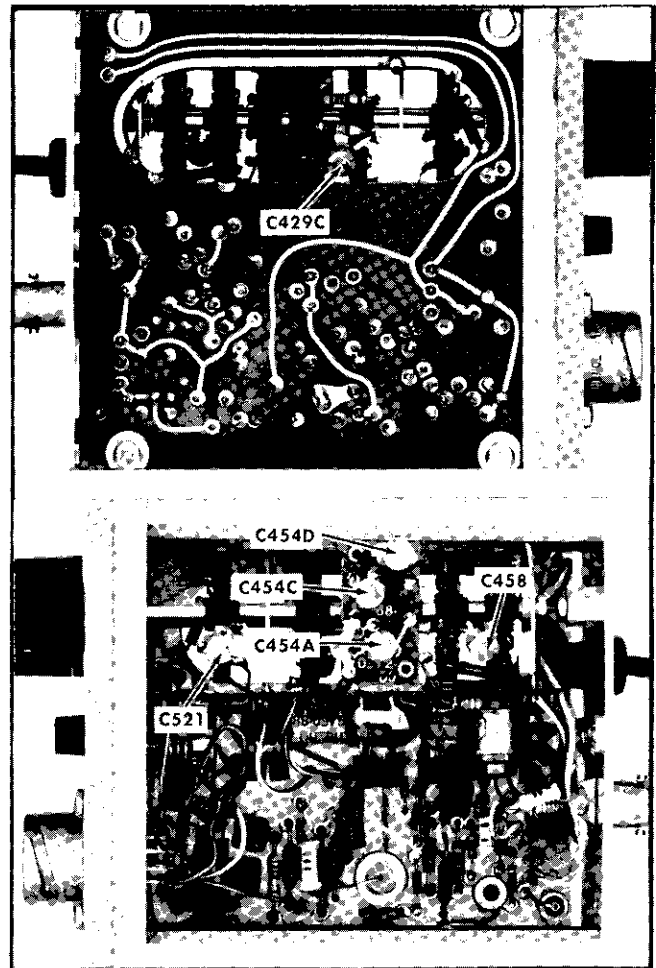

Fig. 6-11. Amplifier For P6046 transient response adjustment locations.
k. (Amplifier For P6046 only.) If C454D in the Amplifier For P6046 has been moved, reset it to mid-position prior to adjusting the Probe transient response. Observe the leading edge of the square wave while adjusting C454D to determine its mid-position. See Fig. 6-11 (B) for C454D location.
m. (Amplifier For P6046 only.) CHECK and ADJUST—Transient response of a 4 division square wave at each setting of the mVOLTS/DIV switch in the same manner as was done in the 5 mV/DIV position, using the Amplifier For P6046 adjustments given in Table 6-3. See Fig. 6-11 for adjustment locations.